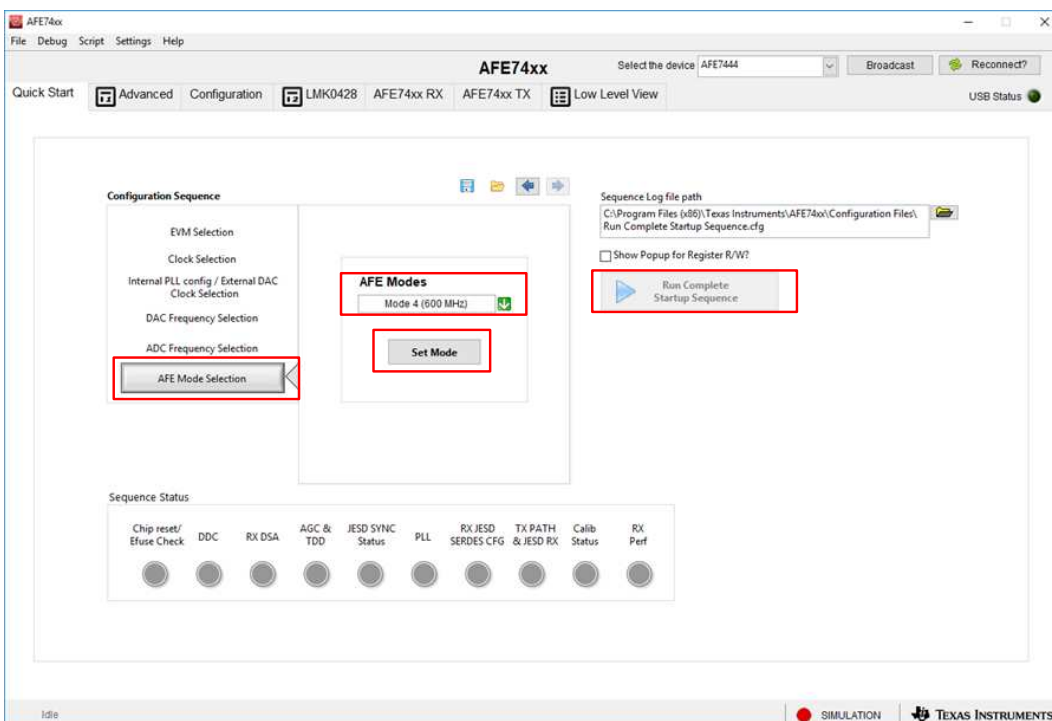

Figure 6. AFE Mode Selection
- As shown in Figure 6, click the *AFE Mode Selection* button, and select Mode 4.